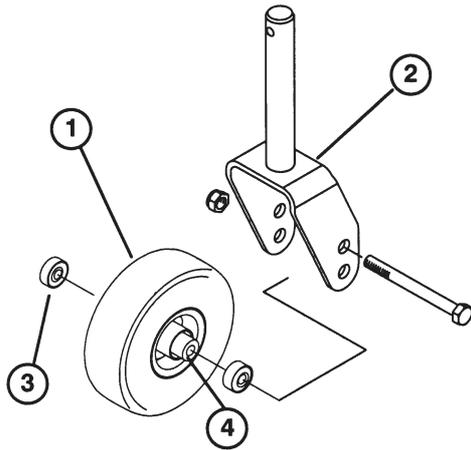
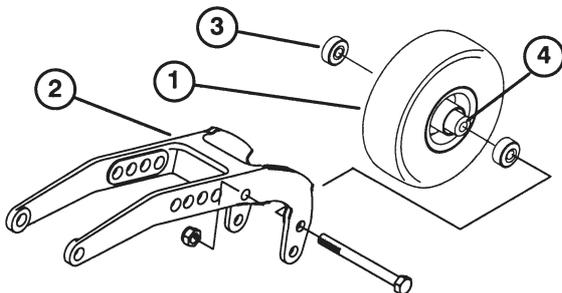

Figure 79
Figure 80
1. Remove the locknut from the capscrew holding the castor wheel assembly between front castor fork (Fig. 79) or rear castor pivot arm (Fig. 80). Grasp the castor wheel and slide the capscrew out of the fork or pivot arm.